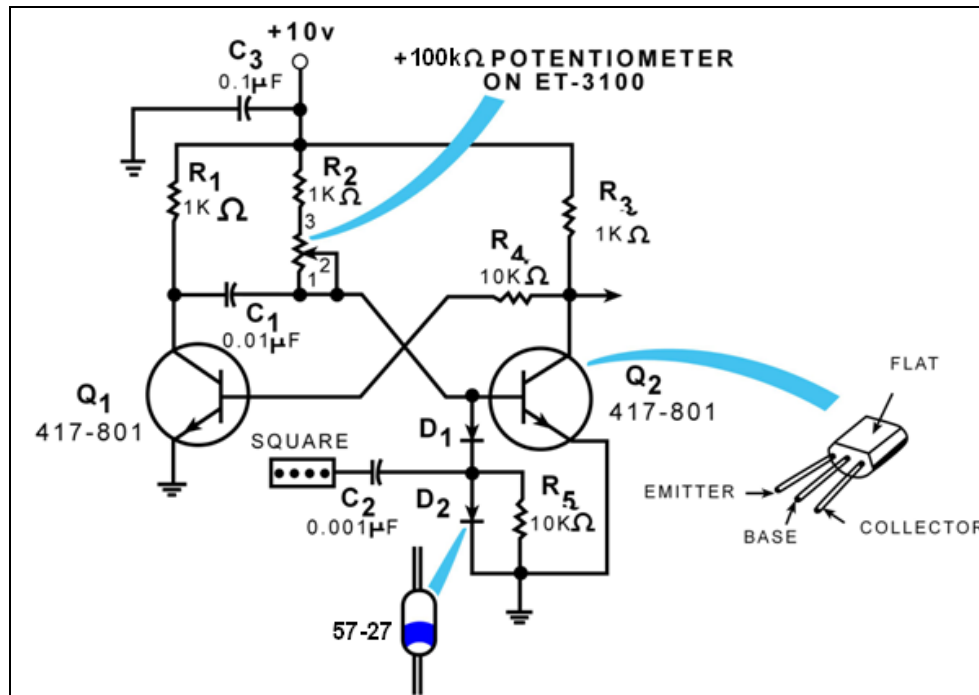

Fig. 1-1 Monostable Multivibrator
1. Construct the circuit shown in Fig. 1-1. Turn on the ET-3100 and set the supply voltage to +10 volts.